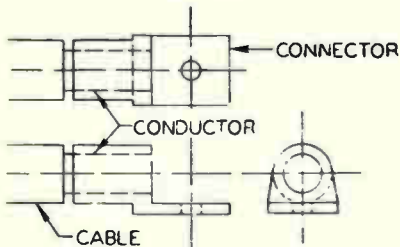

Fig. 6-16
- CL-1 One hole cable lug. Fig. 6-16